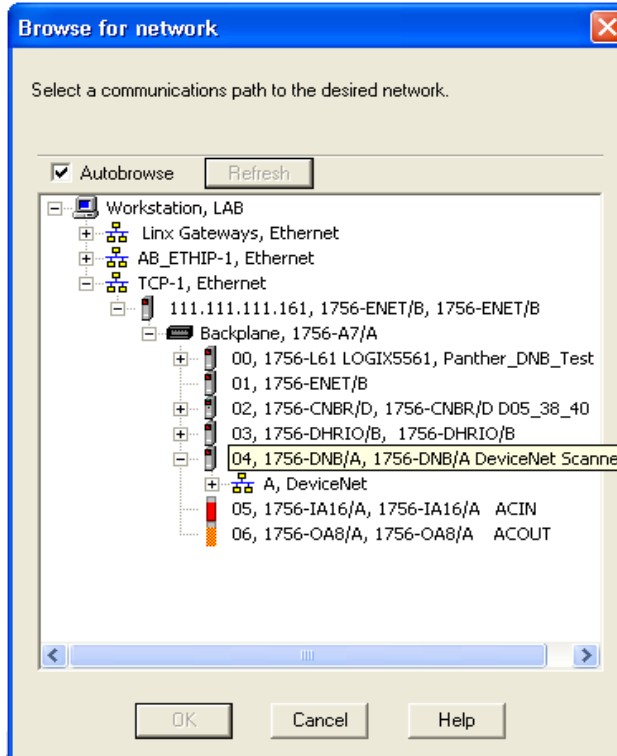

Figure 5-18: Browse for network
2. Select the appropriate network path. In this case (Figure 5-18), 1756-DNB/A DeviceNet Scanner is selected.